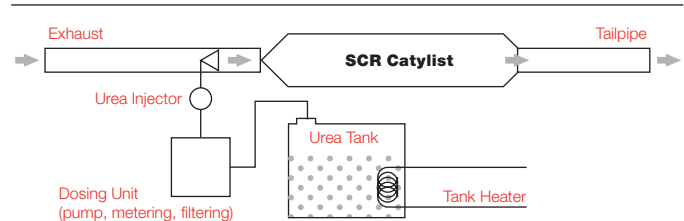

FIGURE 6
- **Selective catalytic reduction (SCR):** This is a very effective method for curbing NOX emissions and is basically aqueous urea injection into the exhaust stream passing over a suitable catalyst. SCR can reduce NOX up to 98 percent. Systems consist of an SCR catalyst, urea injection system, urea tank, pump and a control system. See FIGURE 6.